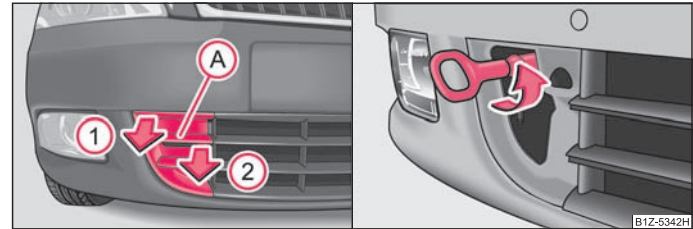
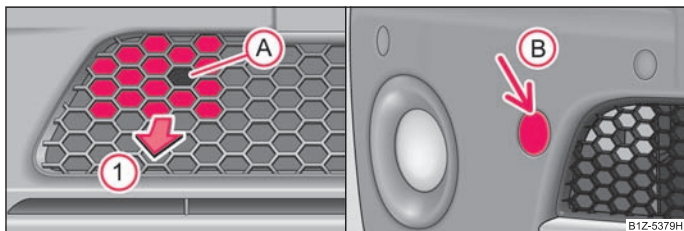

Fig. 185 Front bumper: protective grille/installing the towing eye
Fig. 186 Front bumper Octavia RS: Protective grille/Octavia Scout: Cover
- Guide the fingers into the opening **A** ⇒ fig. 185.
- Screw in the towing eye by hand to the left up to the stop ⇒ fig. 185 - right and tighten. For tightening, we recommend that you use for example the wheel wrench, the lashing eye of another vehicle or a similar object which you can push through the eye.
- Guide one finger into the opening (A) of the grille ⇒ fig. 186.
- Unlock the cover by pulling it in direction (1) and remove it.
- Screw in the towing eye by hand to the left up to the stop ⇒ page 215, fig. 185 - right and tighten it as much as possible.
- Press on the upper part of the cover (B) and remove it.
- Screw in the towing eye by hand to the left up to the stop ⇒ page 215, fig. 185 - right and tighten it as much as possible. For tightening, we recommend that you use for example the wheel wrench, the lashing eye of another vehicle or a similar object which you can push through the eye.